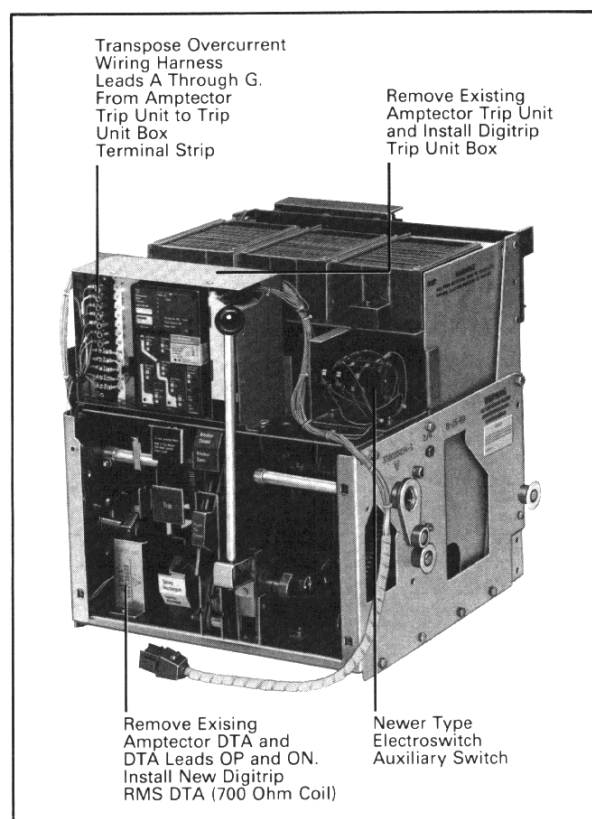
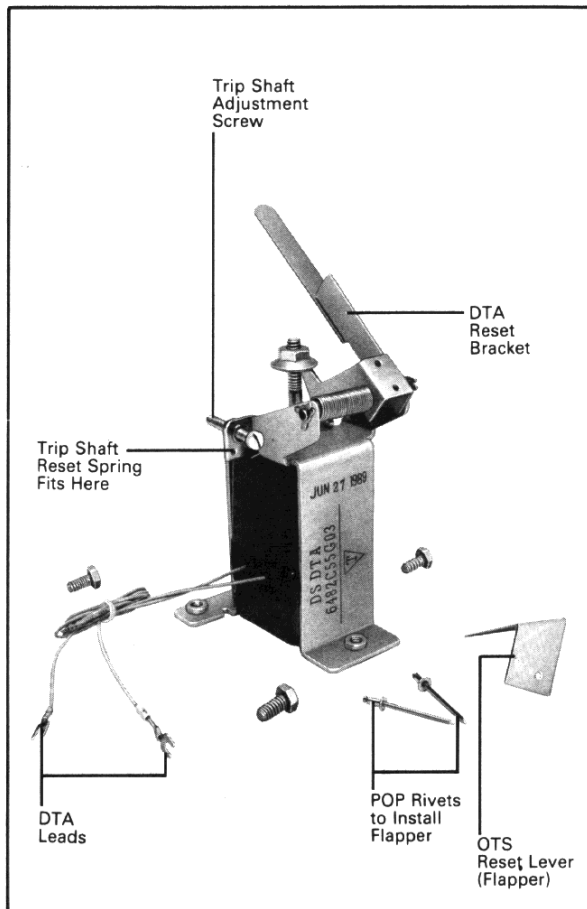

Fig. 9-1. DS Breaker Retrofit Kit Installation
Fig. 9-3. Direct Trip Actuator (DTA)
4. Take off the breaker faceplate by removing the four (4) screws (6 screws for DS-632 and 840) that hold it to the breaker. This will provide access to the breaker front, similar as shown in Fig. 9-1.
2. Refer to Fig. 9-1. Cut the ring tongue terminals off the ends of existing terminal leads OP and ON and remove them from the wire bundle going to the Direct Trip Actuator (DTA). Later, these leads will be replaced with new leads supplied with the new Digitrip RMS DTA.
1. Refer to Fig. 9-1. Mount the Trip Unit Box, Fig. 3-4, on the breaker in the same location as the Amptector Trip Unit using the two (2) existing screws.
b. If the breaker is equipped with an Electroschwitch type auxiliary switch, Fig. 9-1, cut off the ring-tongue terminals from the ends of AUX1 and AUX2. Strip and crimp on 2 slip-on terminals to the leads and slide them over the switch terminals. Install the auxiliary switch cover.
1. Test by operating the Direct Trip Actuator (DTA), Fig. 9-3, several times before installing it. Alternately, pull back on the DTA reset lever to reset the DTA, then trip it by applying 24 Vdc to the DTA terminal leads. Be sure to observe the proper polarity to the positive lead.
2. Locate the existing Amptector type DTA on the breaker, Fig. 9-1. Find the trip shaft reset spring connecting the DTA frame to the breaker trip shaft (location shown in Fig. 9-3). Remove the end of the spring connected to the DTA. DO NOT LOOSE the spring.
5. For DS breakers equipped with OTS switches, the OTS reset lever (flapper), Figs. 9-3, must be installed on the DTA reset bracket with the two pop rivets provided. Fig. 9-4 shows the flapper installed on the DTA.
The trip shaft adjustment screw, Fig. 9-3, on the DTA frame must be adjusted to provide the correct breaker trip latch overlap. This procedure is as follows: